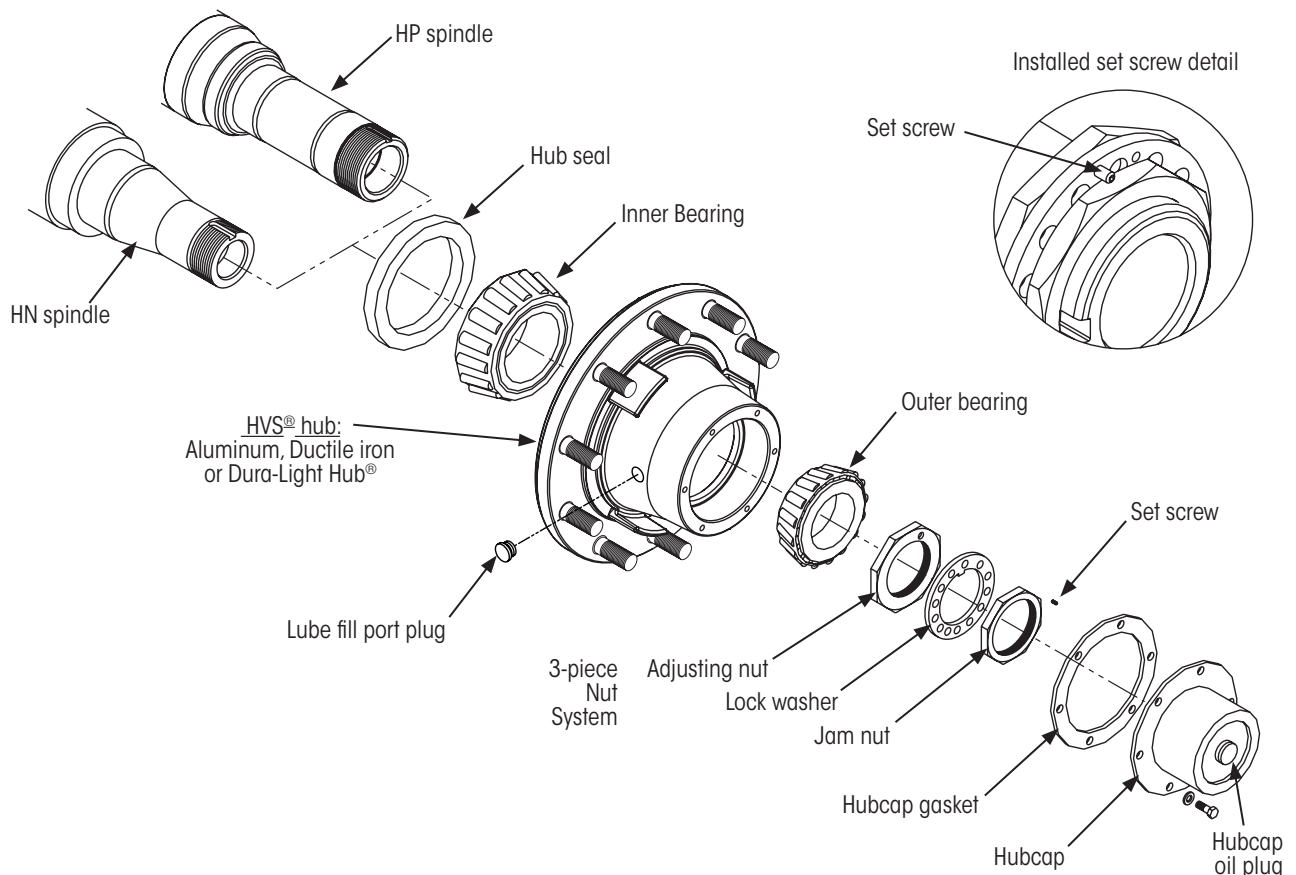
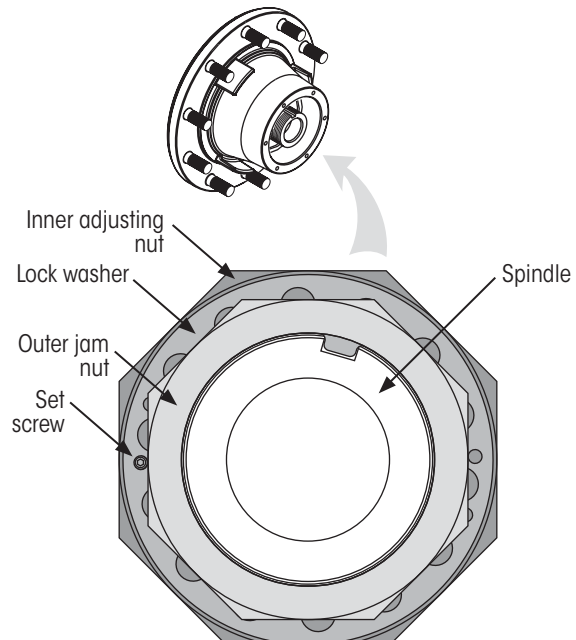
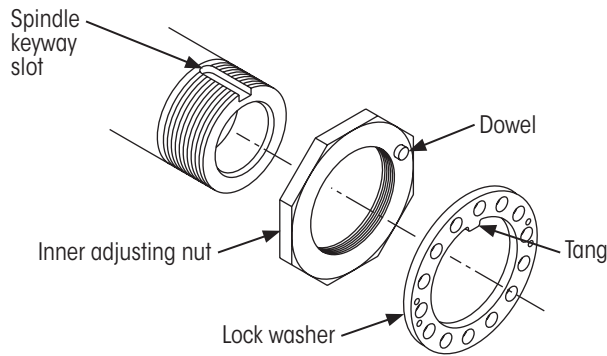
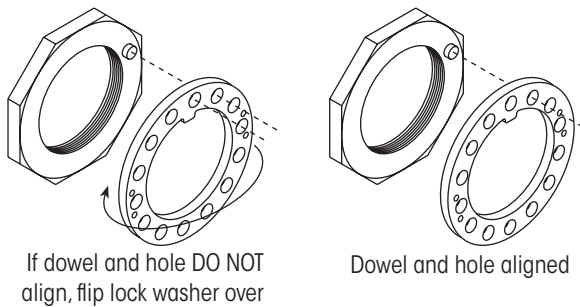

Figure 1: HVS® Hendrickson Value System™ wheel-end parts identification
Figure 9: 3-piece nut system components
Figure 10: Adjusting nut and lock washer installation
Figure 11: Align adjusting nut dowel with hole in lock washer
The HVS® Hendrickson Value System™ hub assembly (Figure 1) comes pre-assembled, adjusted and lubricated from Hendrickson. Because we control the assembly, internal cleanliness, bearing adjustment and seal installation in our facilities, we can offer premium performance and an extended-service warranty on these hub assemblies.
The HVS® hub assembly is filled with oil at the factory during the assembly process. Oil is contained in the hub by the hub seal where leakage can occur (Figure 1 on page 5).
11. Refer to Figure 9 on page 10 and **check** to ensure:
- C. Outer jam nut and retaining set screw are securely in place (Figure 9 on page 10).
5. Using a $\frac{5}{64}$ inch hex key, **remove** set screw from lock washer (Figure 1 on page 5 and Figure 9 on page 10).
The HVS® hub system uses a 3-piece spindle nut system (Figure 9).
1. **Install** inner adjusting nut (Figure 10) on spindle, dowel side out, and tighten to 200 ft. lbs. (271 Nm) of torque while rotating wheel.
6. **Install** lock washer (Figure 10). Ensure lock washer tang fits in the spindle keyway slot and inner adjusting nut dowel fits in one of the holes in the lock washer. If this alignment cannot be achieved, remove the lock washer, flip it over and reinstall it on spindle (Figure 11).
- i. **Remove** outer jam nut (Figure 9).
NOTE: If a smaller tightening increment is desired, remove lock washer from the spindle, flip it over, reinstall it on the spindle and tighten inner nut so its dowel aligns with the next alignment hole in the lock washer (Figure 11).
NOTE: If a smaller loosening increment is desired, remove lock washer from spindle, flip it over, reinstall it on spindle and loosen inner adjusting nut so its dowel aligns with the previous alignment hole in lock washer (Figure 11).
11. **Install** set screw (Figure 1 on page 5) into an accessible threaded hole in lock washer (Figure 9). Set screw must contact inner adjusting nut. Tighten to 18±2 in. lbs. (2.0±0.2 Nm) of torque.
1. **Ensure** lock washer is properly positioned and flush with inner adjusting nut at dowel pin (Figure 9 and Figure 11).